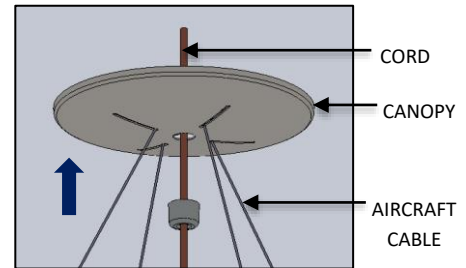

FIG. 13 – CANOPY PLATE INSTALLATION
8. Pass the CANOPY through the AIRCRAFT CABLE and CORD in such a way that the AIRCRAFT CABLE goes through the oblong slot hole and CORD passes through the center hole on the CANOPY as shown in FIG. 13 below.